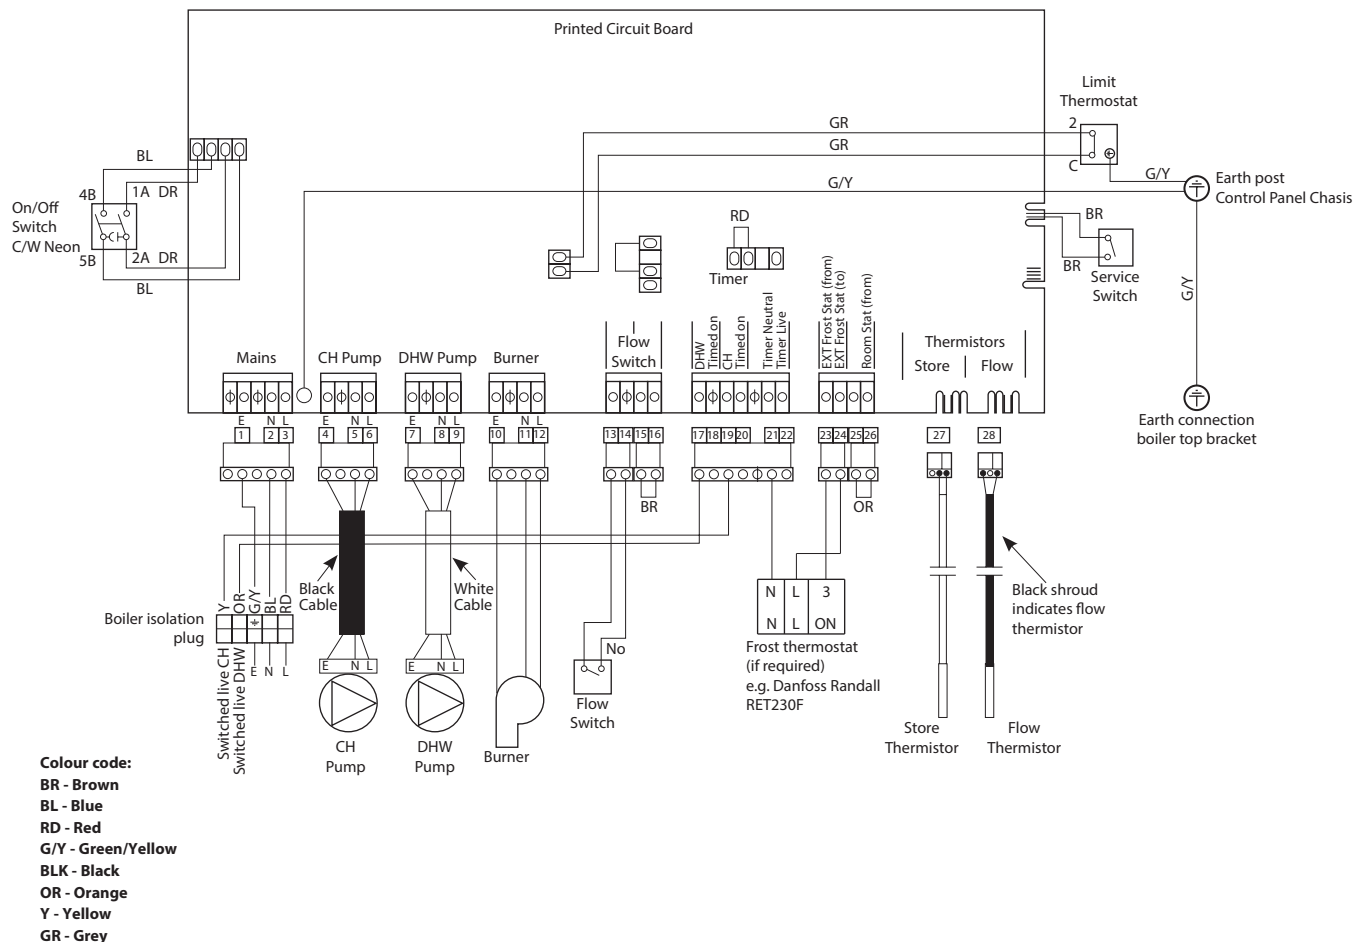

Figure 8-1: Boiler Wiring Diagram
Refer to Figure 8-1 for the control panel wiring diagram for all Vortex Pro Outdoor combi models.
- Frost thermostat Neutral (N) to terminal 21 on PCB connector.
- Frost thermostat Live (L) to terminal 24 on PCB connector.
- Frost thermostat Switched Live-ON (3) to terminal 23 on PCB connector.
6. Refer to Figure 8-1 for typical connection of Remote Frost Thermostat.